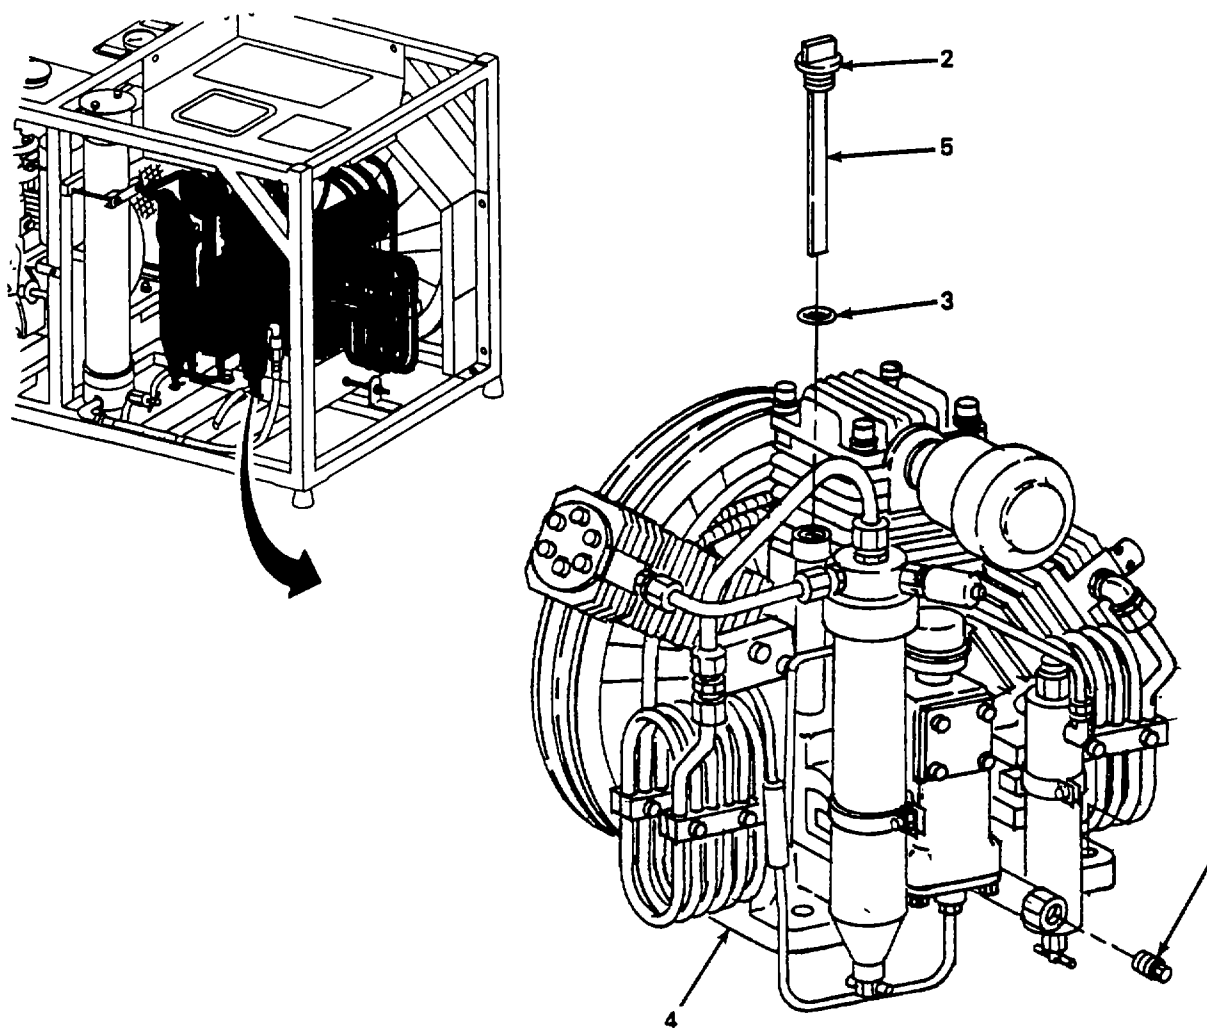

Figure 4-4. Air Compressor Assembly, Service.
- (1) Start and operate compressor (para. 2-12).
- (2) Test air output of compressor with detector kit.
- (3) Compare results of test with specifications in FM 20-11-1 Air Purity Standards.
- (4) Shut down air compressor (para. 2-12).
b. Service. (figure 4-4)
- (1) Remove drain plug (1) and drain compressor oil into suitable container.
- (2) Install drain plug (1).
- (3) Remove filler tube plug (2) and preformed packing (3).
- (4) Fill compressor (4) with oil until oil level reaches mark on dipstick (5). Refer to table 3-1 for proper grade viscosity of compressor oil.
- (5) Install filler tube plug (2) and preformed packing (3).